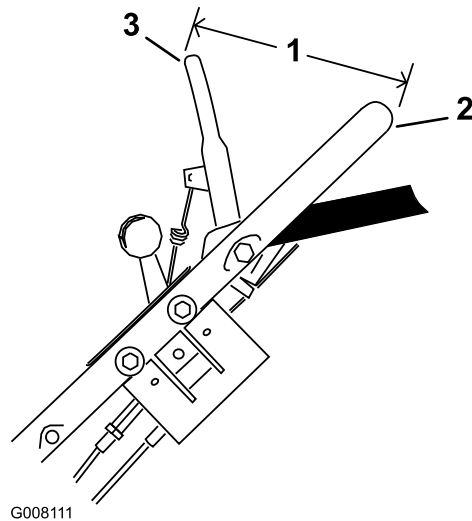

Figure 33
6. Hold the blade control bar so that the **outside** of the bar is 5-1/2 inches (14 cm) from the **outside** of the handle, and pull the cable to remove the slack, but do not put tension on the spring (Figure 33).